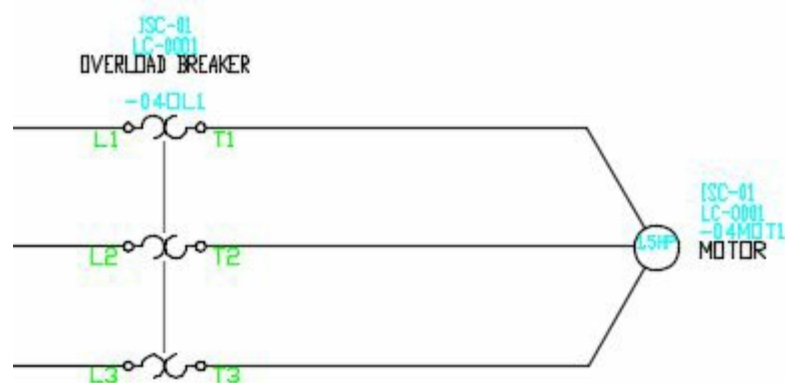

Figure-20. Overload Breaker
- Click on the **OK** button from the dialog box. If the **Assign Symbol To Catalog Number** dialog box is displayed then click on the **Map symbol to catalog number** button. The breaker will be placed in the circuit; refer to Figure-20.